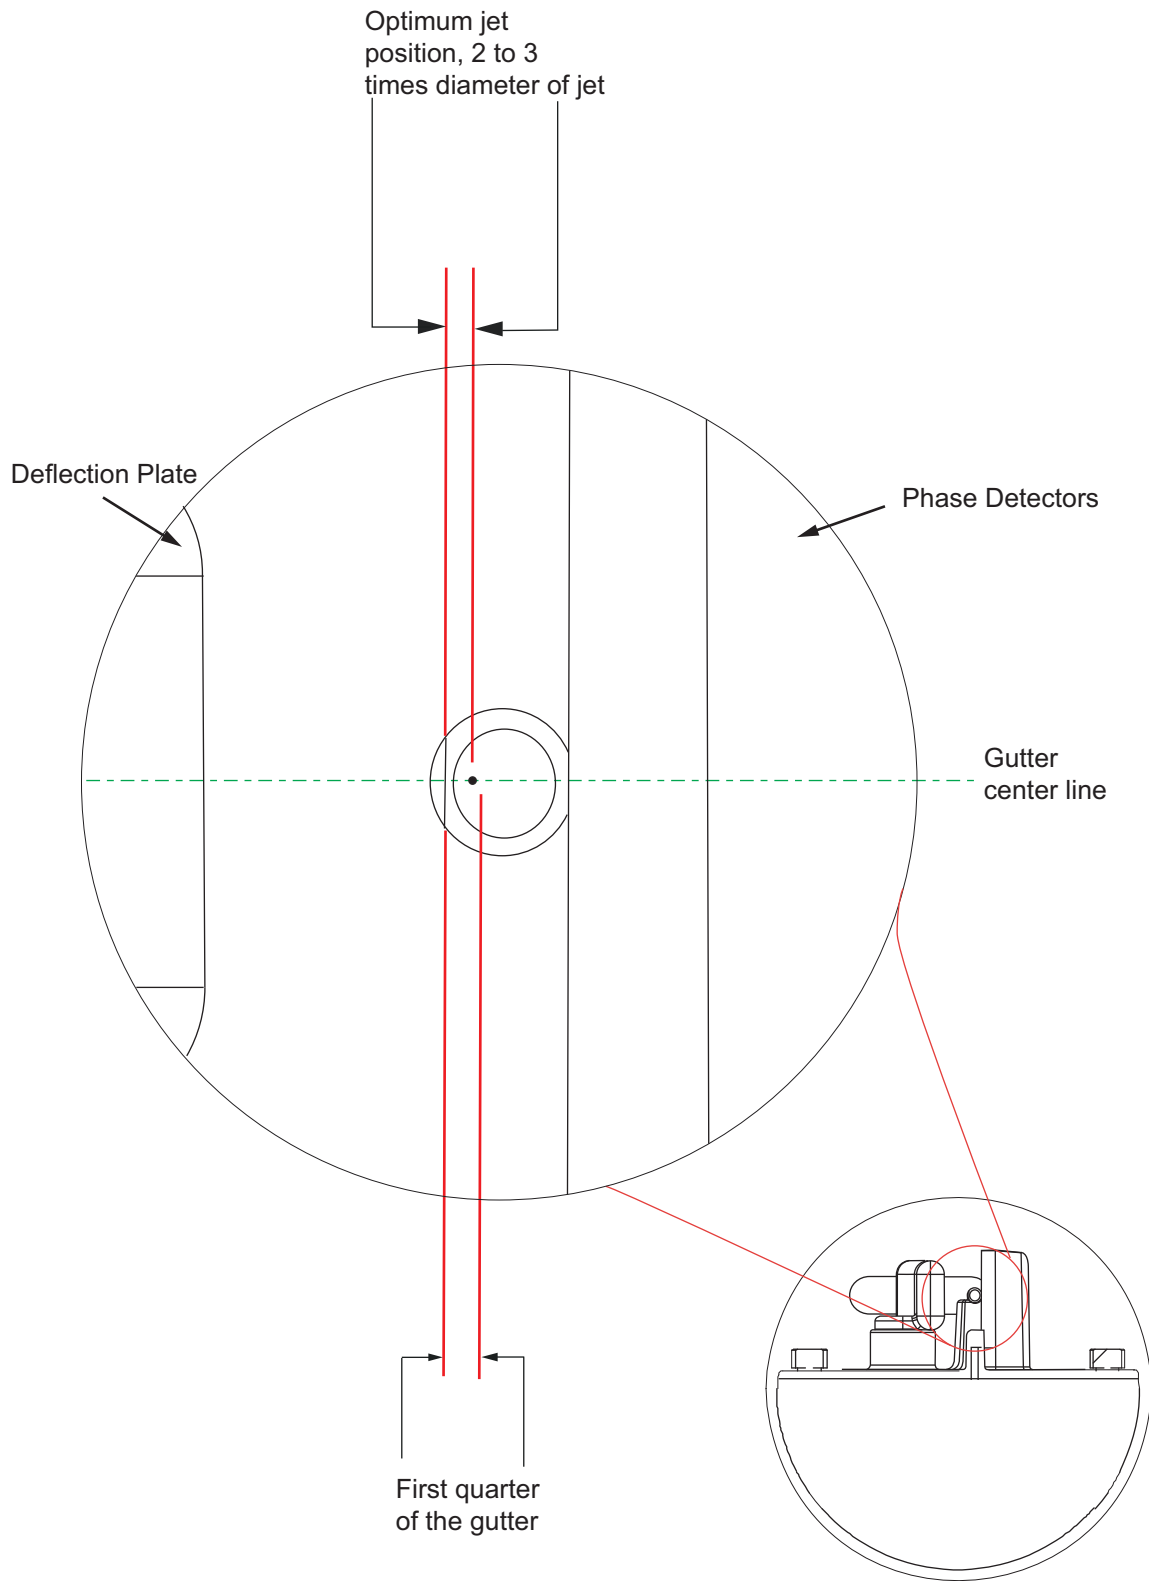

Figure 4-44: Ink Stream Alignment
- 2 Secure the printhead vertically in a suitable stand with the nozzle pointing downwards (see Figure 4-44 on page 4-38).
- 5 Perform a Quick Start. When the ink jet has started, check that the ink jet is in the correct position in the gutter (see Figure 4-44 on page 4-38).